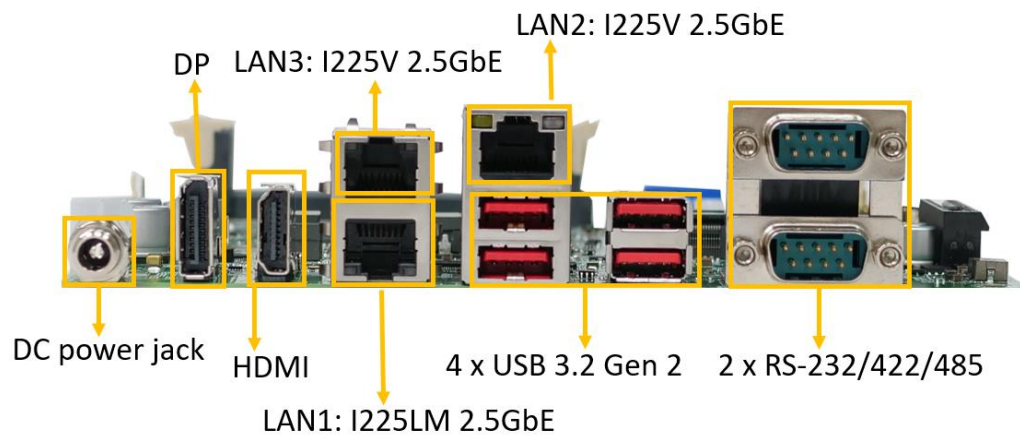

Figure 3-25: External Peripheral Interface Connector
Figure 3-25 shows the KINO-ADL-P external peripheral interface connector (EPIC) panel.
CN Location:	See Figure 3-25
- CN Location:** See **Figure 3-25**